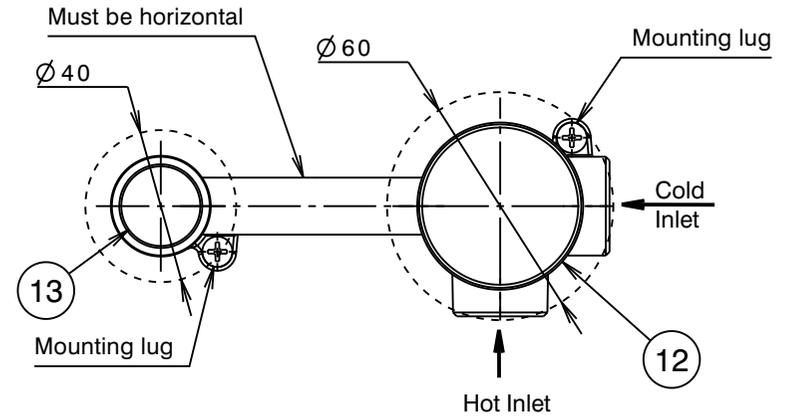

Fig. 3
- 1) *Body:* Fit mixer body assembly (9-13) onto a suitable mounting plate or noggin in the wall and secure using screws through the holes in its base. When facing the mixer, the connections should be as follows (Fig.3):